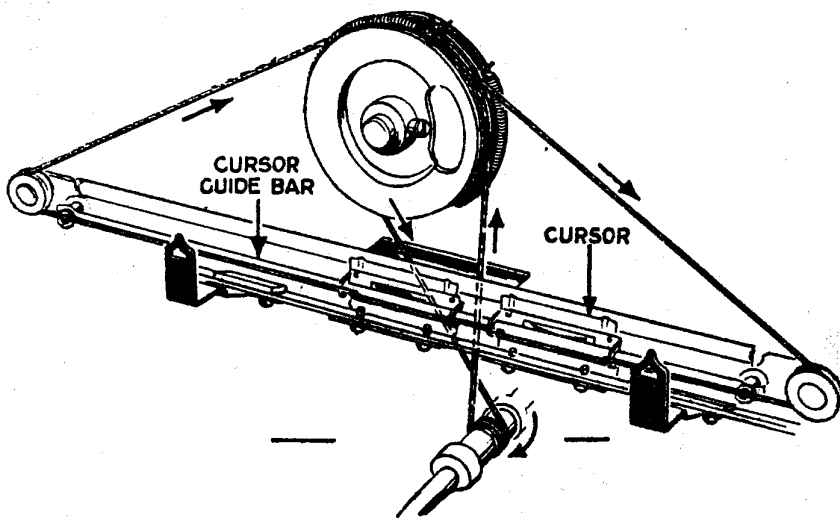

FIG. 9.
- (1) Take approximately 59 inches of cord and splice on to the closed end of "S" hook. Draw the cord through a piece of hard wax to ensure freedom from slip.
- (2) Remove the cursor guide bars.
- (3) Thread the cursors on the cord as shown in Fig. 9—the distance between the end of hook and the first hole in cursor should be exactly $15\frac{1}{2}$ inches. Adjust the second cursor on the cord so that the distance between the inside holes of the pair of cursors is exactly $18\frac{1}{2}$ inches. Now refer to Fig. 6.
- (4) Set condenser vanes fully in, and hook end of cord on to "S" hook and "S" hook on to anchor plate as shown.
- (5) Pass cord round drum and up over top of M.W. pulley.
- (6) Take cord round lower M.W. pulley, over top of drum, and under lower L.W. pulley.
- (7) Take cord over top L.W. pulley and around drum — one complete turn.
- (8) Assemble coil spring in position as shown.
- (9) Replace pointer guide bars by threading them through the cursors and securing at top and bottom.
MODEL 512 CORD DRIVES (Fig. 9).
- (1) Remove station scale from frame, and remove the cursor guide rod and pointer assembly.
- (2) Take approximately $39\frac{1}{2}$ inches of cord and splice on to the closed end of "S" hook. The cord must be drawn several times through a piece of hard wax to ensure freedom from slip.
- (3) Thread the free end of cord through the bottom holes in cursors as shown in Fig. 9 and pull through until distance between end of hook and first hole in cursor is exactly $15\frac{1}{2}$ inches.
- (4) Replace cursor guide rod and pointer assembly.
- (5) Slide pointers fully to the right and with the condenser vanes fully engaged, place the hook end of cord on the front (right) anchor point, pass the cord clockwise once round the drum, and then over the right-hand pulley.
- (6) Now take the free end of cord round the left-hand pulley and proceed along the centre (narrow) channel of cord drum.
- (7) Make one turn around drum in a clockwise direction and then splice the cord on to the spiral spring so that coils of spring will be slightly opened when spring is hooked on to the left-hand (front) anchor point.